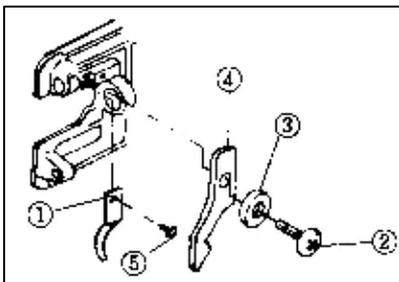

Fig.30
- A. To change the fixed knife (1), loosen the inner spindle stopper fixing screw (2) as in Fig.30, remove the washer (3) and inner spindle stopper (4), then unfasten the fixed knife fixing screw (5). Follow these instructions in reverse order to assemble.